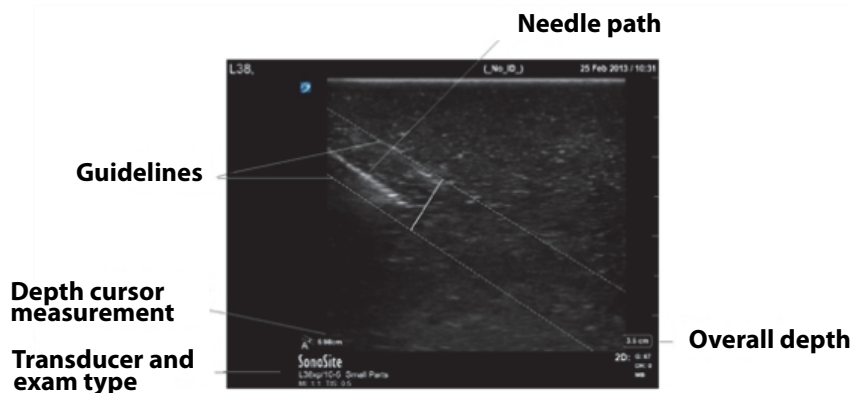
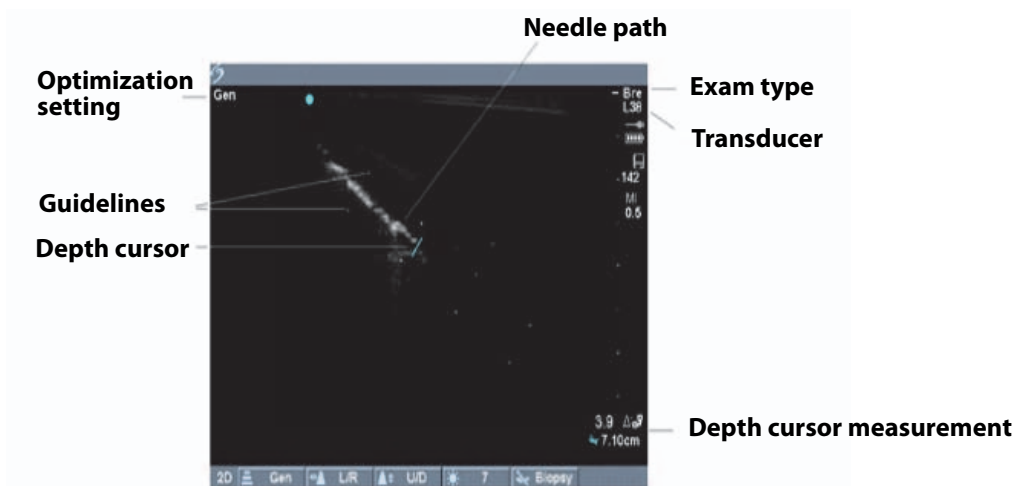

Figure 3 In-plane guides on the SonoSite X-Porte system
Figure 4 In-plane guides on the MicroMaxx or TITAN system
- 8 Verify that the needle, as shown on the system display, is between the guidelines. See **Figure 3, “In-plane guides on the SonoSite X-Porte system”** on page 10 and **Figure 4, “In-plane guides on the MicroMaxx or TITAN system”** on page 11.
The depth cursor measurement shown on the ultrasound system measures the distance from the tip of the needle to the origin of the needle guide. See Figure 3 and Figure 4.